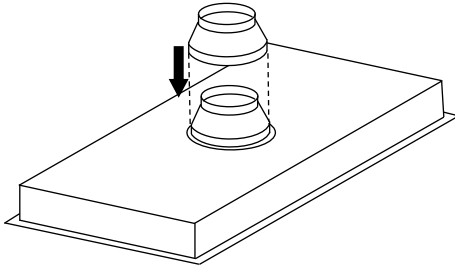

Fig 5
2. Remove the grease filters and place the 200/150mm ducting adapter to the back of the hood (Fig 5).